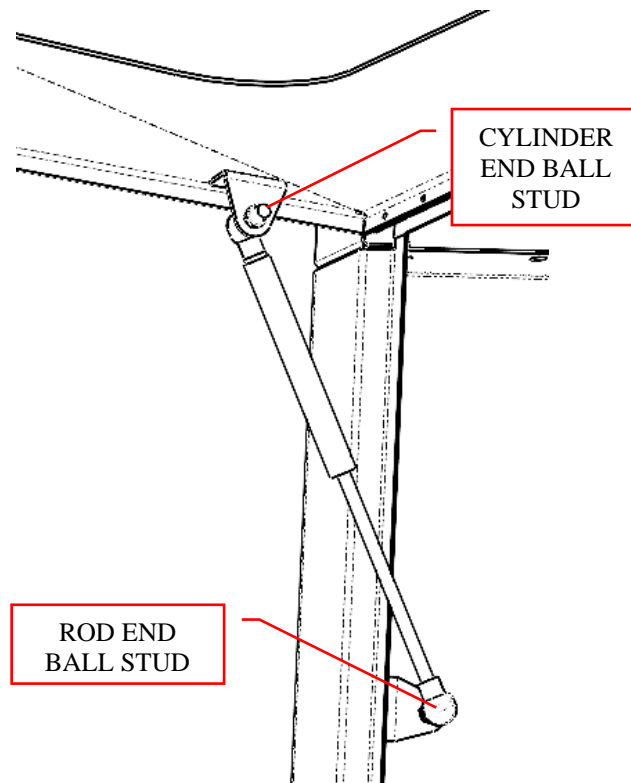

Figure 7: Attach the gas spring to the ball studs.
5. Snap the gas spring onto the ball studs. Be sure to install with the cylinder end attached to the door and the rod end attached to the wall. The rod end should always be pointed down to ensure the seal remains lubricated. See Figure 7.